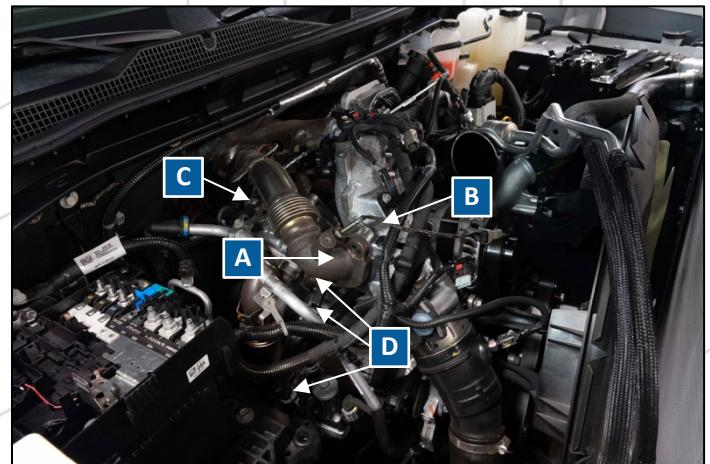

Figure 18: EGR Assembly
25. Unbolt EGR cold tube from upper Intake manifold 13mm hex head bolt x2 (labeled as A and B in Figure 18).
26. Un plug EGR bypass valve (labeled as C in Figure 18).
27. Remove EGR Cooler coolant bleed line 10mm hex head bolts x2, spring clamps x2 (labeled as D in Figure 18).